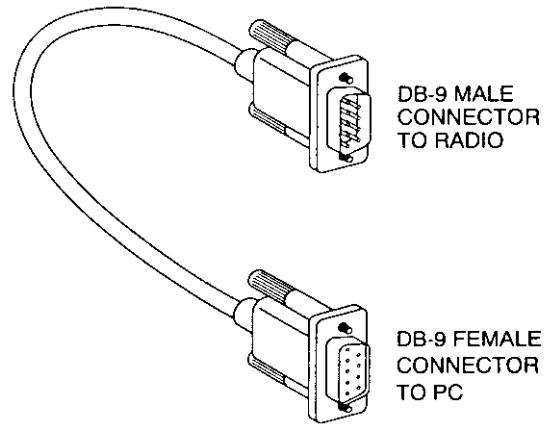

Figure 28. PC Diagnostics Cable (DB-9 to DB-9)
1. Connect a DB-9 to DB-9 cable (Figure 28) between the PC and the radio's rear panel DIAGNOSTICS connector.